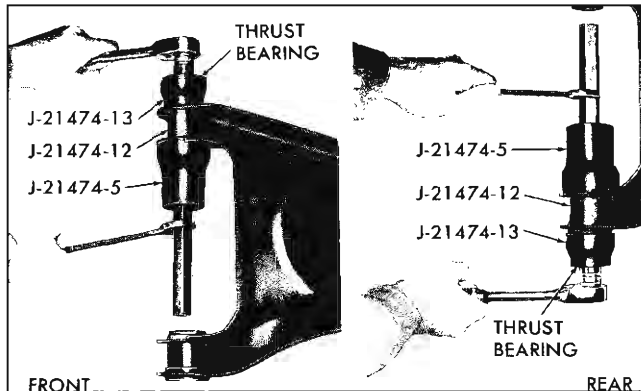

Fig. 37—Lower Control Arm Bushing Installation—Chevelle
3. Install the tools as shown in Figure 37. Use the small end of J-21474-13.
5. Perform the same operation to install the control arm rear bushing, using the large end of J-21474-13. Install the tools as shown in Figure 37.